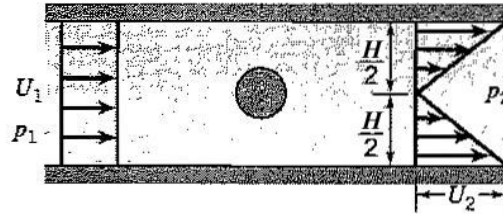

Figure P3.35
3.35 A cylinder is held in a two-dimensional duct of constant width W and height H , as shown in Figure P3.35. As a result, the downstream velocity distribution becomes as shown. The density ρ is constant, and the flow is steady. Find U_2 in terms of U_1 , and find the force exerted by the fluid on the cylinder in terms of ρ , U_1 , W and H . Neglect frictional effects and assume that $p_1 = p_2$.